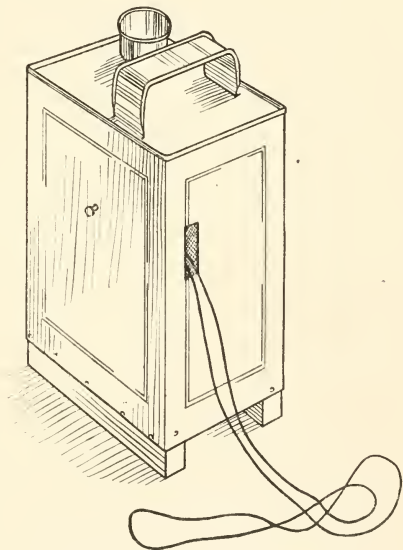

FIG. 62.—The Completed Varnish-Can Water-Motor.
**An Outlet** for the water after it has passed over the wheel paddles must be provided, and the best way is to fasten a strip to two opposite sides of the can so as to raise the bottom about an inch, as shown in Figs. 62, 63, and 64.